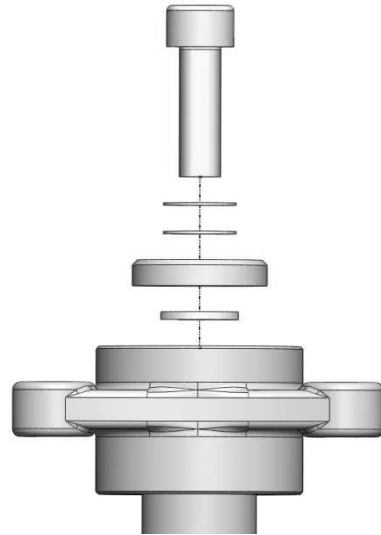

Figure 73. Mind the assembly order of the different type of washers.
7. Fit the screw with washers on the axle. Mind the assembly order of the different type of washers. See fig. 73. Push the hub onto the axle by tightening the screw. Tighten the screws using a torque wrench. **Tightening torque: 33 Nm / 24.3 Ft/lbs**